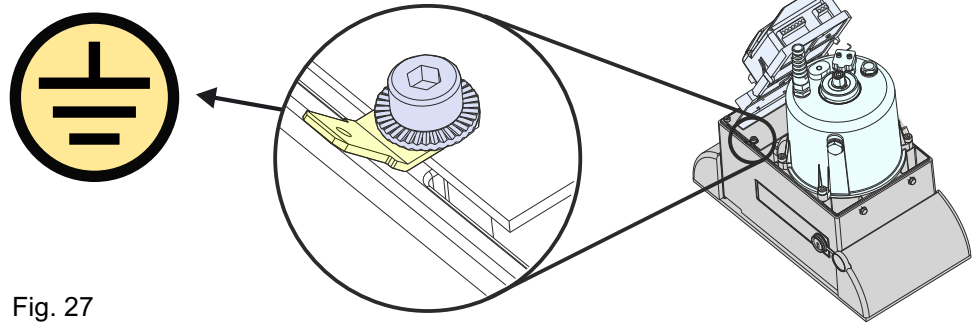

Fig. 27
8.1. Before connecting the operator to the power supply, provide for its earthing, by the use of the special earthing screw as shown in Fig. 27